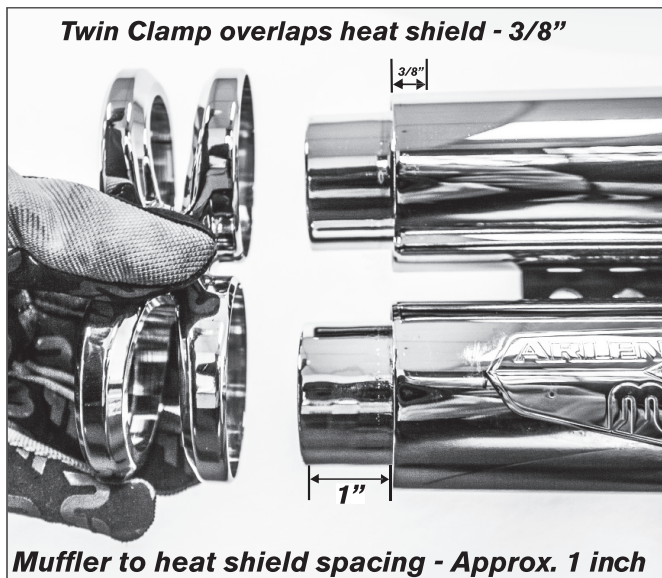

Fig 7
11. With the screw head facing the motorcycle, insert the larger opening of the Twin Clamp onto the mufflers and over heat shields. Make sure that the mufflers are fully inserted in the Twin Clamp and the Twin Clamp overlaps the heat shields approximately 3/8 inch. Do not tighten at this time to allow for adjustment. (Figure 7)